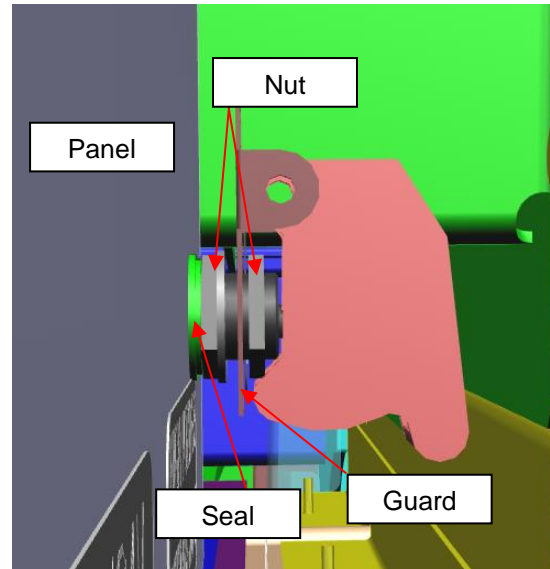

Figure 2: Emergency Power Switch Stack Up
4. Install the provided emergency power switch (PN: 117047), seal (PN: 400073), switch guard (PN: 8111605) and decals (PN: 535764 and 670903). For stack up of switch install see Figure 2 below.